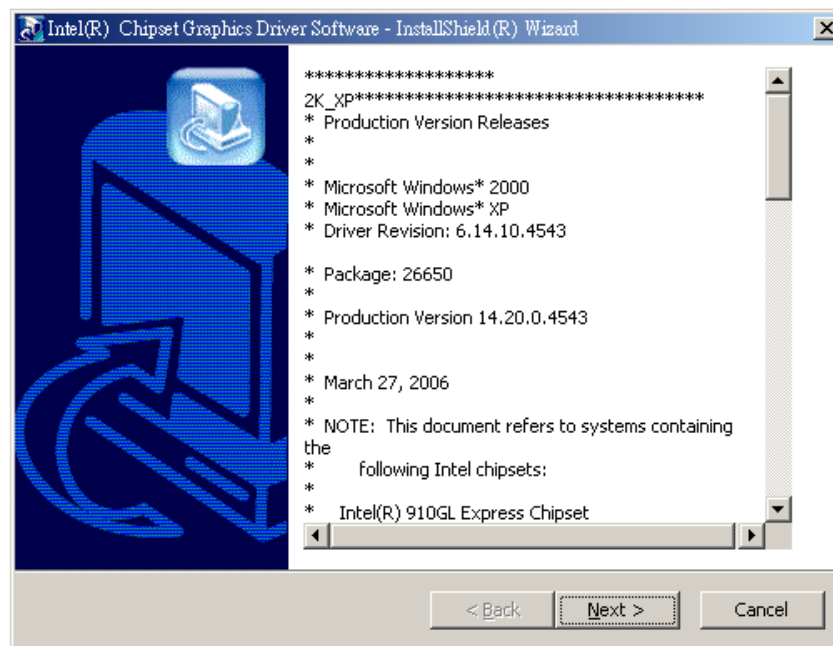

Figure 6-6: Starting Install Shield Wizard Screen
- Step 3:** The Starting Install Shield Wizard appears (**Figure 6-6**).